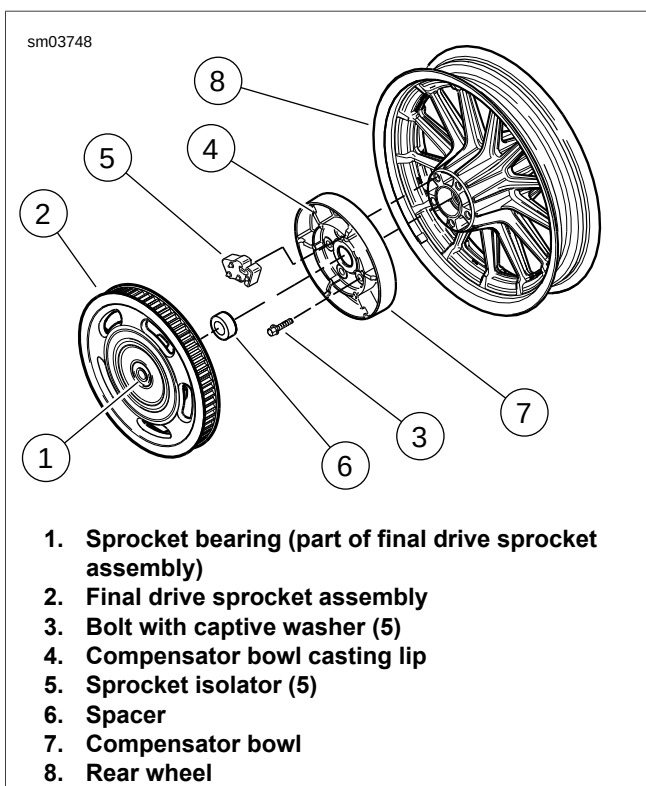

Figure C-1. Compensating Sprocket
2. See Figure C-1. Remove final drive sprocket assembly (2) and spacer (6).
3. Pull sprocket isolators (5) from compensator bowl (7).
1. See Figure C-1. Wipe inside of compensator bowl (7) and final drive sprocket (2) with a clean, damp cloth.
2. Inspect sprocket bearing (1). If bearing surface is rough or if bearing was leaking grease, replace bearing. See C.1 COMPENSATING SPROCKET, Sprocket Bearing.
3. Inspect sprocket isolators (5) for damage, deterioration, missing chunks or excessive debris beyond normal wear marks. Replace if necessary.
- See Figure C-1. Only remove compensator bowl (7) from rear wheel (8) if necessary. Bolts (3) are one-time usage only. If removed, they must be discarded and replaced with **new** bolts.
1. See Figure C-1. If compensator bowl (7) was removed, install bowl onto rear wheel with **new** bolts with captive washers (3). Tighten bolts as follows:
*Do not lubricate inside of compensator bowl (7), sprocket (2) or sprocket isolators (5) with any type of oil based lubricant. Use ONLY soapy water or window cleaner on isolators to facilitate their installation. Do not install isolators dry.*
3. See Figure C-1. Install spacer (6) by placing on bowl casting lip (4).
4. Install sprocket (2) onto compensator bowl (7).